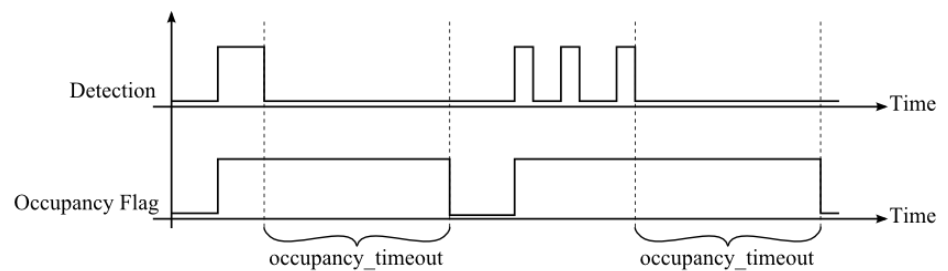

Figure 9: Occupancy Sensor Operation
<p>With this register the function of occupancy sensor is enabled and controlled.</p> <p>occupancy_timeout: defines a timeout in seconds when the state of the occupancy flag of the short pressed register at address 1 will be cleared again after motion was detected. Anyway the occupancy flag of the present state register at address 0 will show the actual state of the occupancy sensor without occupancy timeout. Please see Figure 9 for further information on operation.</p> <p>EN: occupancy sensor enabled, only if enabled the occupancy flag of the present state and short pressed register at address 0 and 1, Table 8 on Page 26 will be set.</p> <p>① Applies only to LSTAT-801-Gx-Lx and LSTAT-802-Gx-Lx.</p>
As depicted in Figure 9 the occupancy flag is set when motion is detected and will be cleared again after the occupancy\_timeout has exceeded as defined at the occupancy\_sensor\_configuration register.